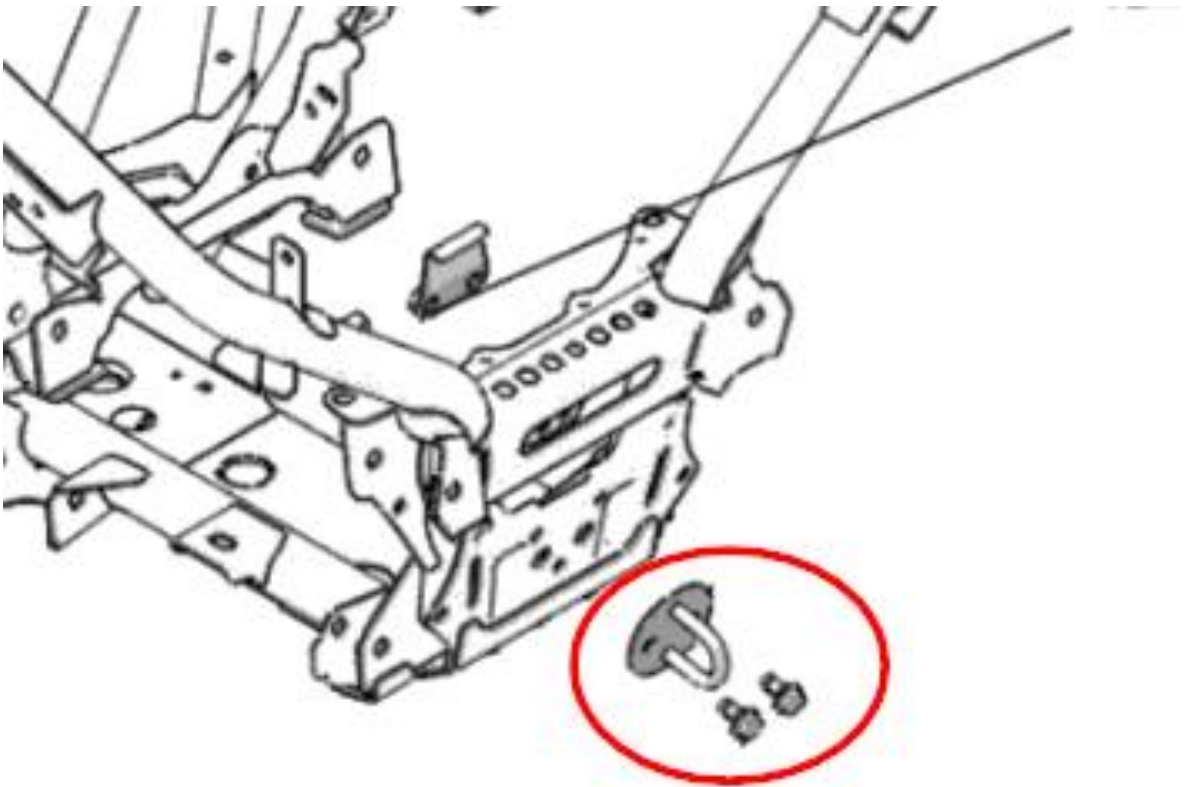

Figure 2
2. Remove the two bolts securing the tow hook as shown in Figure 2.